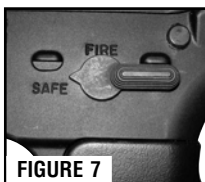

FIGURE 7
- Place safety selector lever on SAFE. (Figure 7)